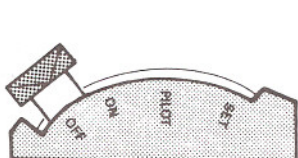

FIGURE 1
For natural gas application; use as is. For L.P. gas application; remove the black plastic thread protector. Unscrew the gas converter and flip it over and re-install it into the valve. The red stripe should now be closer to the valve. (See figure 1.) Re-install black plastic thread protector.
- Move selector arm to the "off" position. (See figure 1.)